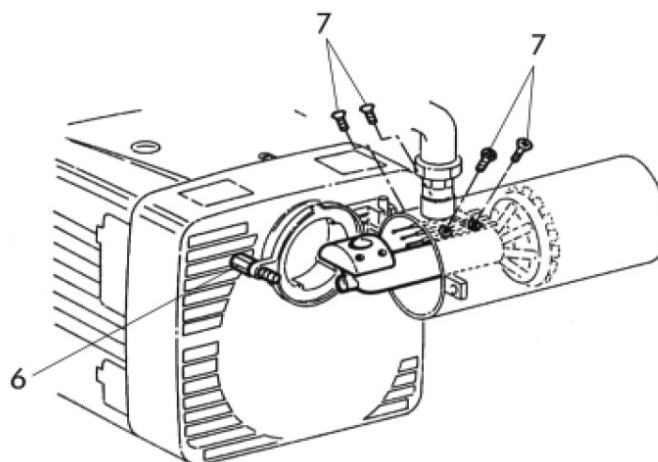

fig. 6
- To gain access to the draught tube and to the electrodes, remove the hinge screw 6 and the screws 7 (fig.6).